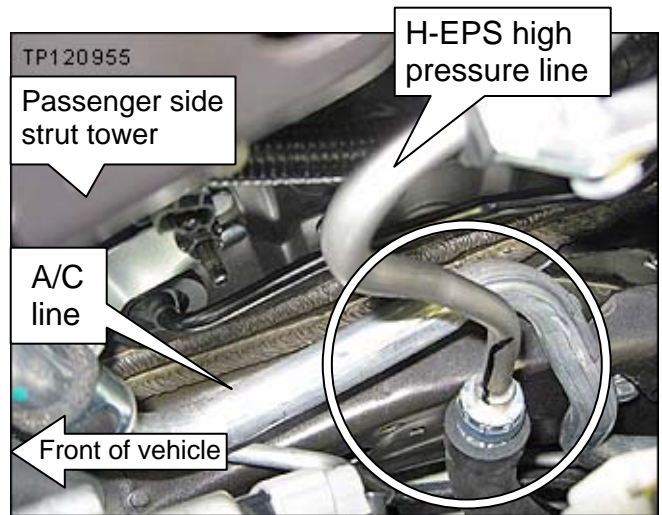

Figure 10
- Check the area circled in Figure 10.
NOTE: The view in Figure 10 is downward from the inboard side of the passenger side strut tower.